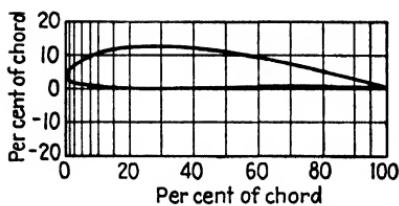

Fig. 191.—Section: N-60.
- 1-2.** Draw the nosepieces of the airfoils in the following tables for a 20-in. chord (see Figs. 191 and 192).